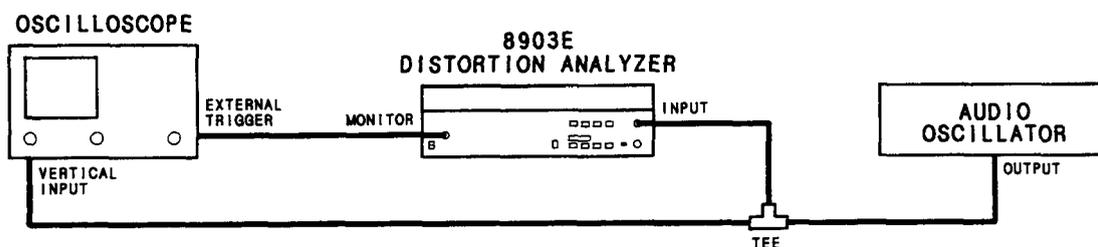

Figure 5-5. Notch Filter Tune and Balance Adjustment Test Setup
2. Set the audio oscillator to 2.8V at 1 kHz. Connect the equipment as shown in Figure 5-5.